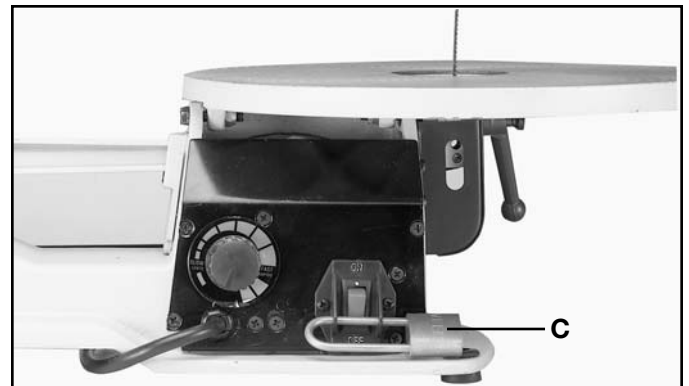

Fig. 19
IMPORTANT: When the tool is not in use, the switch should be locked in the off position using a padlock (C), as shown in Fig. 19. This padlock is available as an an accessory, Model 50-325 padlock.